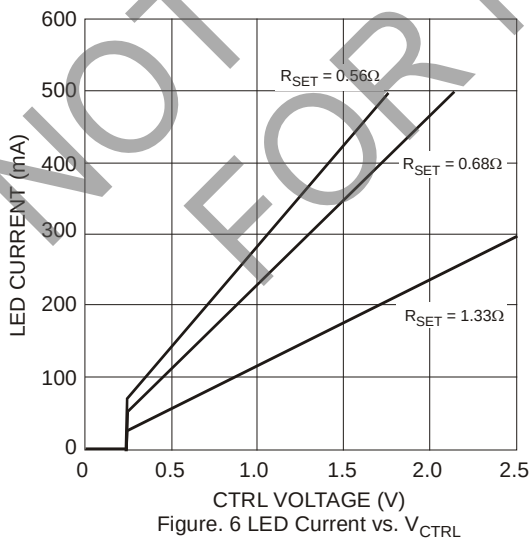

Figure 6 LED Current vs. V_{CTRL}
- Refer to Figure 6 for the device derating curve.